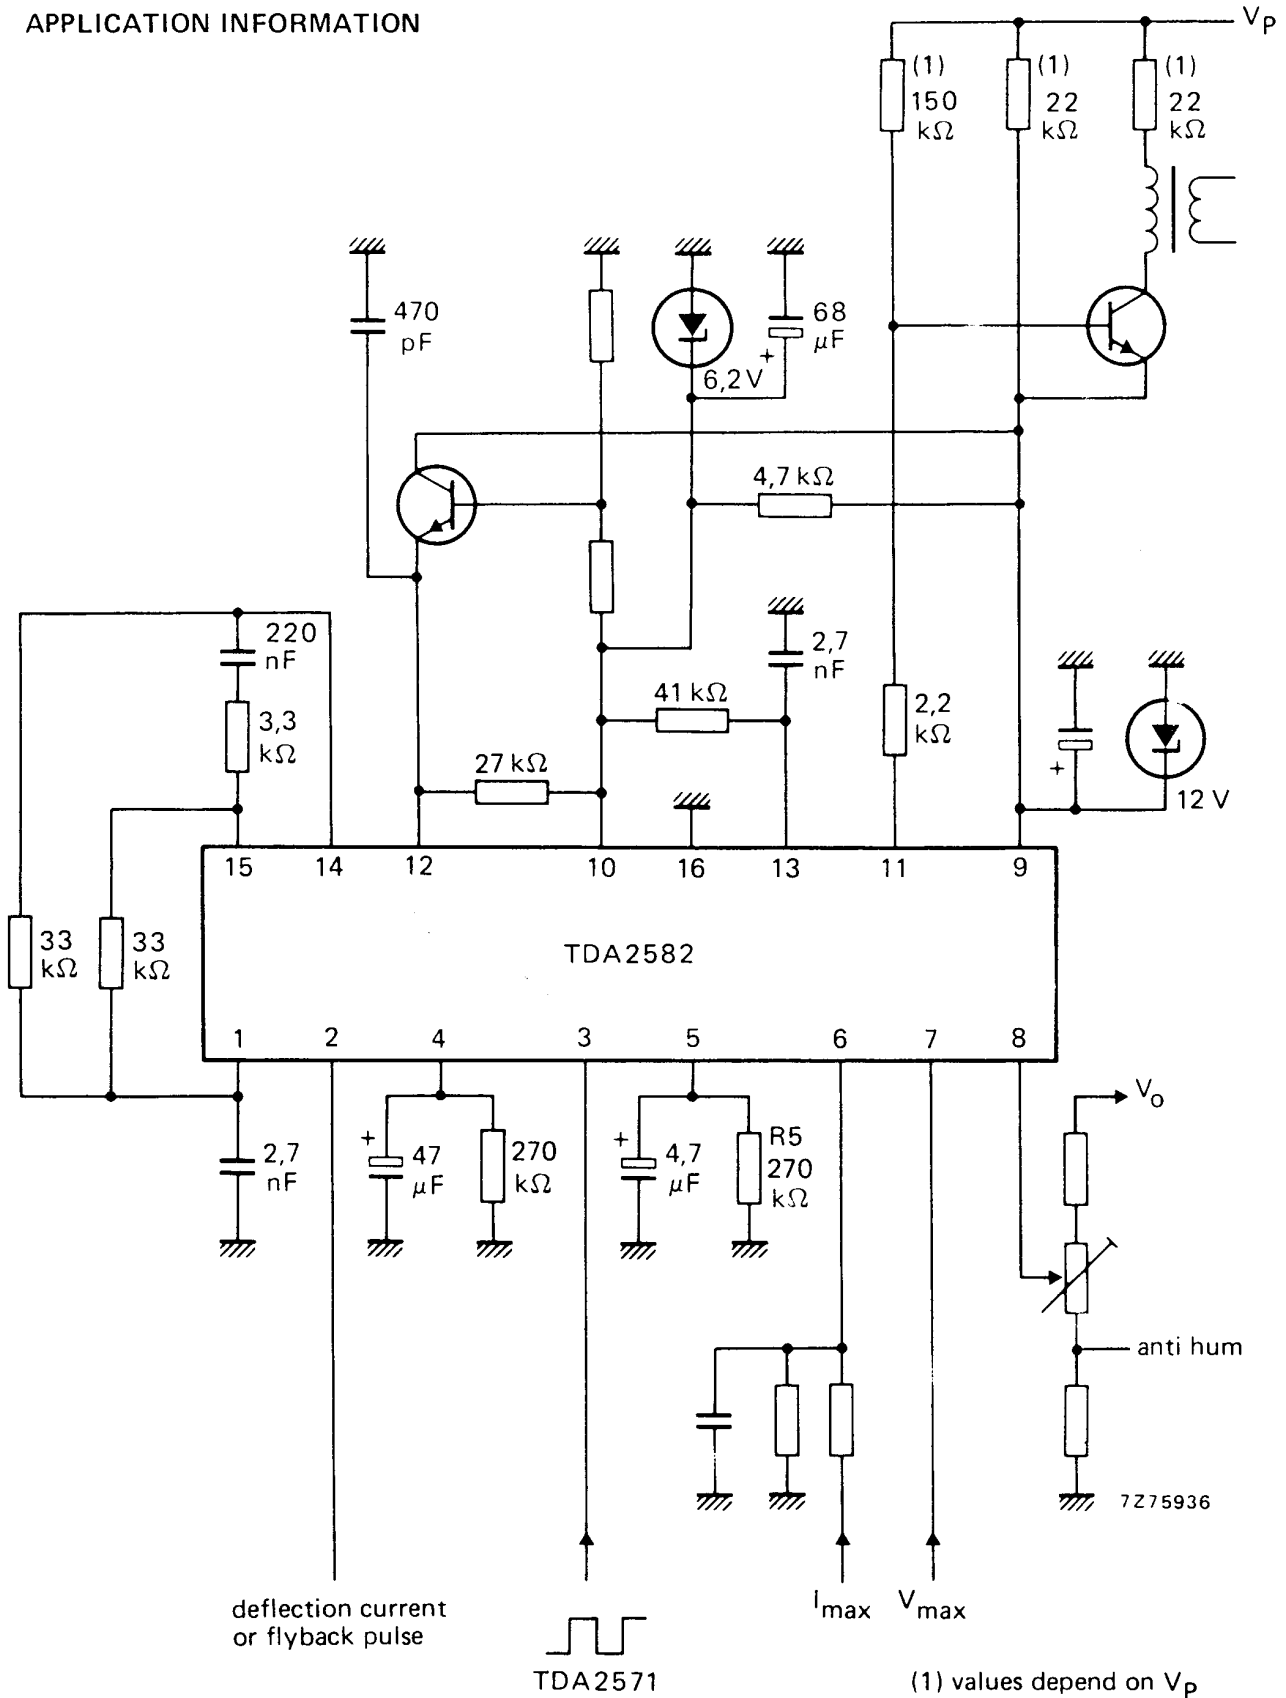

Fig. 4 Circuit diagram.
**CHARACTERISTICS** $V_{9-16} = 12$  V;  $V_{10-16} = 6,1$  V;  $T_{amb} = 25$  °C; measured in Fig. 4
With a resistor of  $2 \times 33 \text{ k}\Omega$  and a capacitor of 2,7 nF the control steepness is  $0,55 \text{ V}/\mu\text{s}$  (Fig. 4).